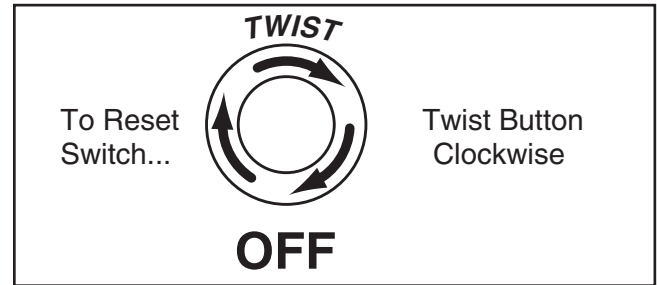

Figure 17. Resetting the Emergency Off switch.
5. Push the EMERGENCY OFF button in, then twist it clockwise so it pops out. See **Figure 1, Page 7** for location of the EMERGENCY OFF button. When the OFF button pops out, the switch is reset and ready for operation (see **Figure 17**).